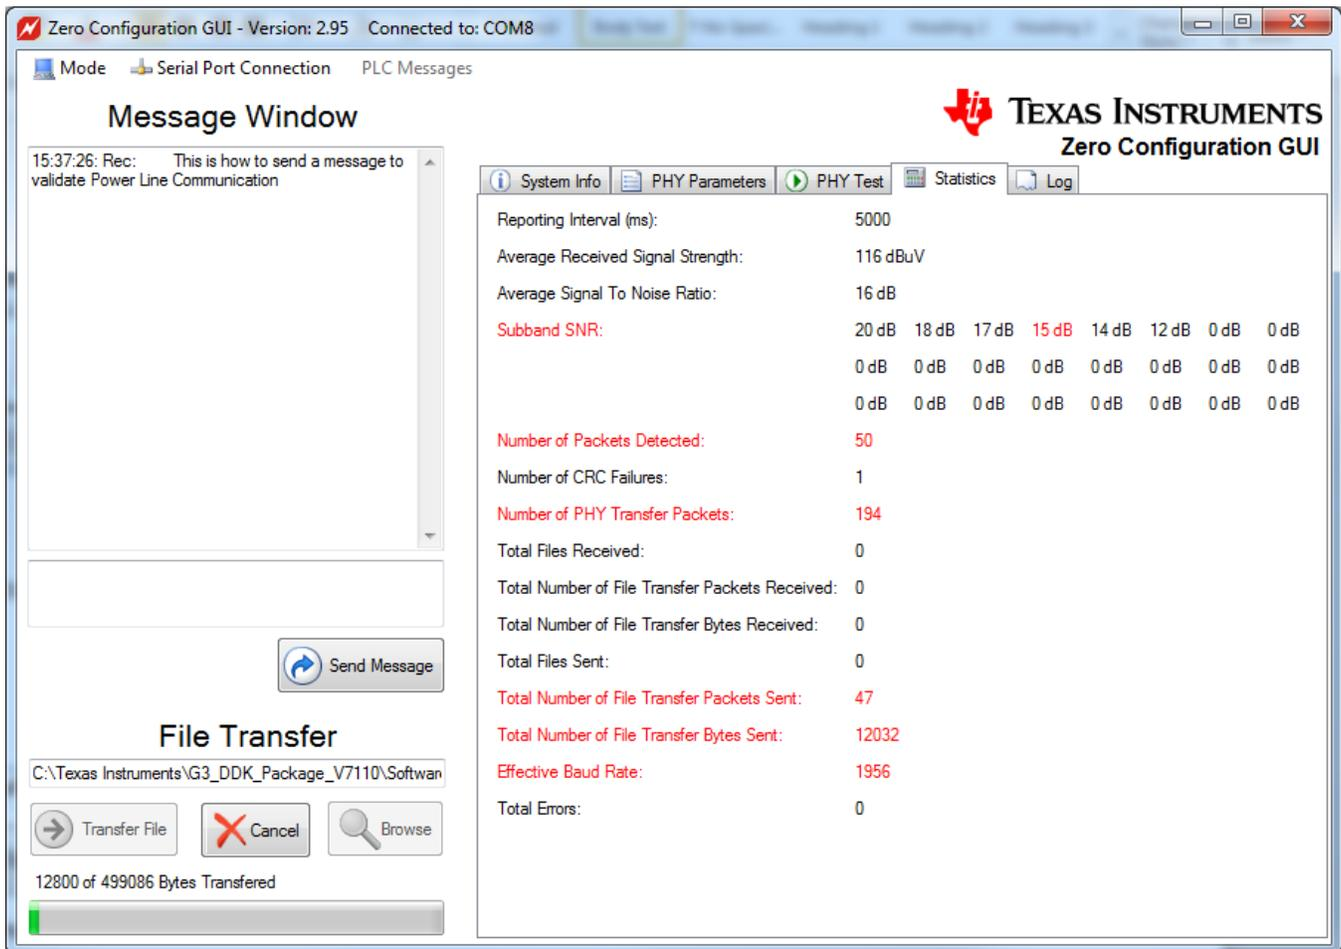

Figure 15. File Transfer Function Part 1
- The File Transfer function contained in the bottom left hand corner of GUI can be utilized to transfers files, as shown in Figure 15.